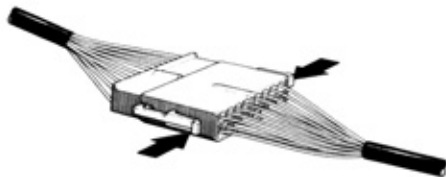

Fig. 1 Unplugging Connector
- As shown in Fig. 1 unplug the connector by pushing in the lock levers and pulling out.